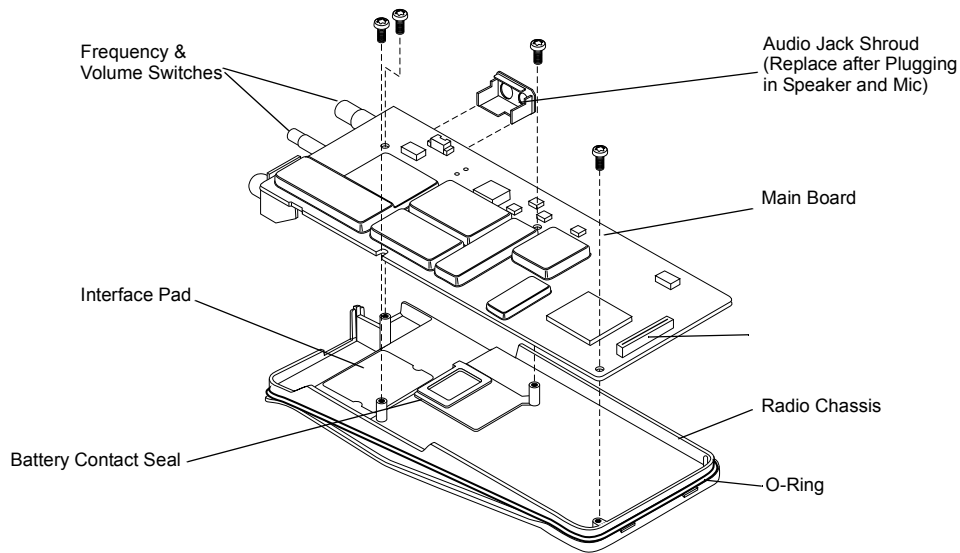

Figure 7-17. Installation of Main Board onto Chassis
1. Replace the battery contact seal (if necessary) surrounding the battery contact (Figure 7-17).
3. Place the main circuit board straight down on top of the chassis with the frequency and volume switches facing down (Figure 7-17).
- c. Slide the audio jack shroud onto accessory connector (Figure 7-17).